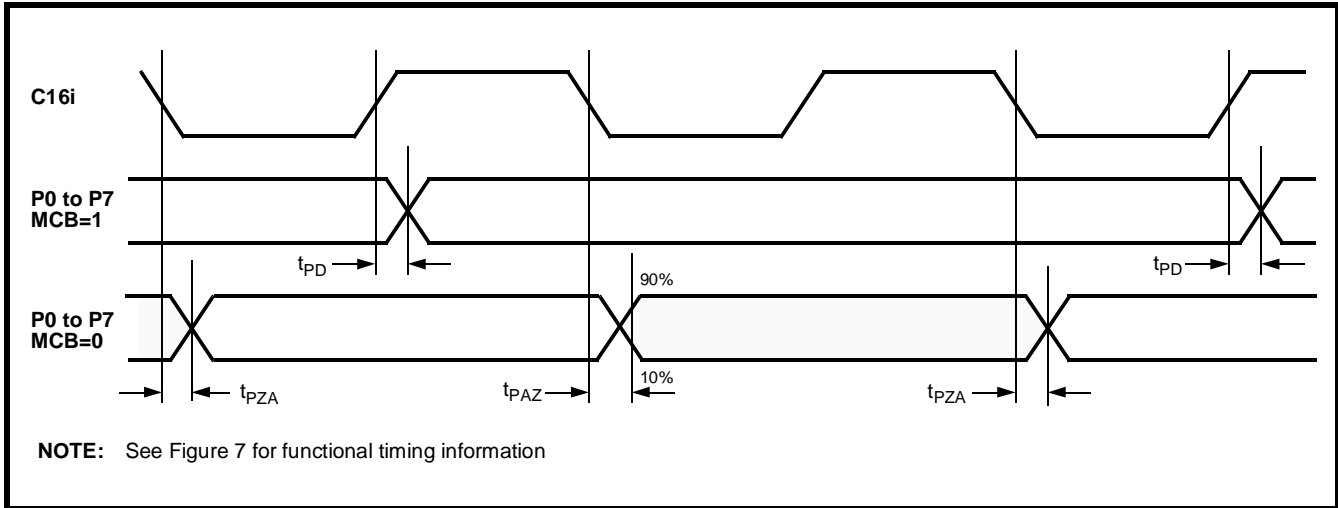

Figure 18 - Parallel Output Timing
**AC Electrical Characteristics† - Parallel Output Timing (See Figure 18)** - Voltages are with respect to Ground ( $V_{SS}$ ) unless otherwise stated.